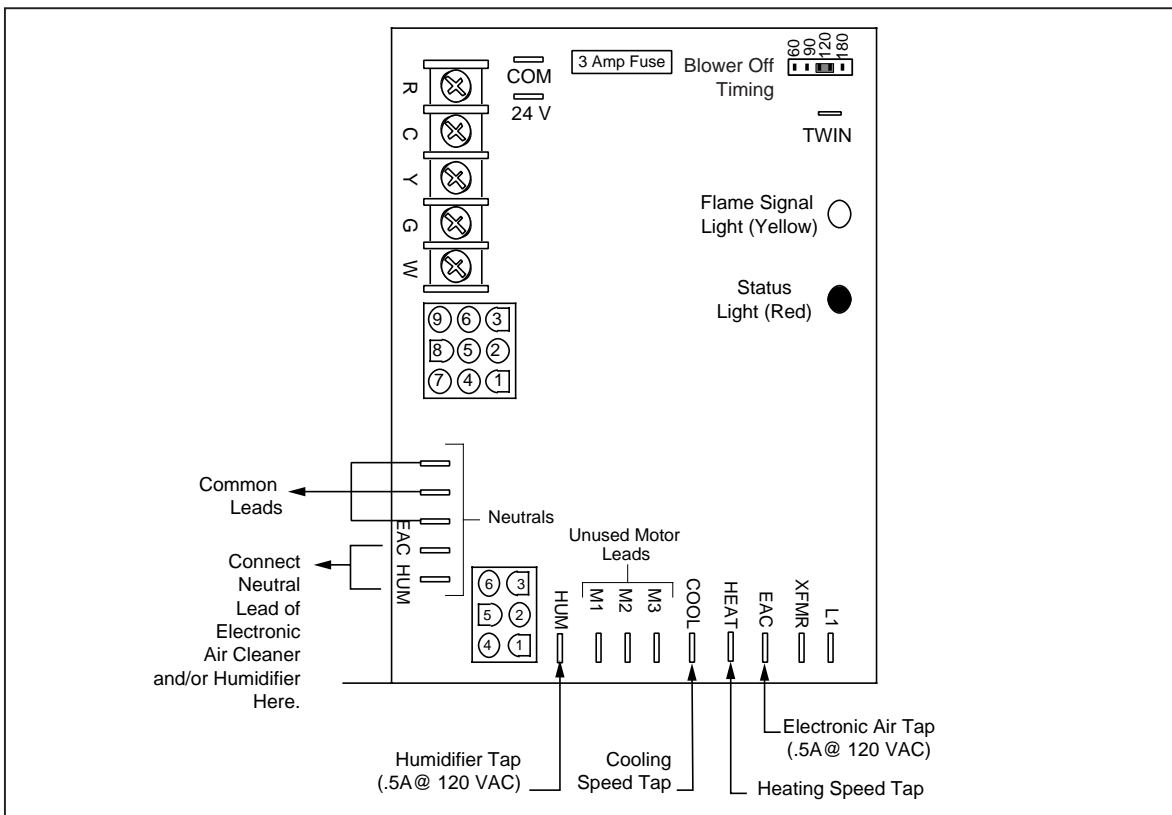

Figure 25. Blower Speed Tap Location
The furnace is equipped with a multispeed motor. Heating and cooling speed selection is made by moving the leads on the integrated control board located in the furnace. The wiring diagram on the furnace and Figures 25, 26 and 27 show the speed taps for adjusting motor speed.
The blower control is designed to start the circulating air blower 30 seconds after the gas valve is opened. The blower control is factory wired to turn the blower motor off 120 seconds after the gas valve is closed. This timing can be changed using the BLOWER OFF timing switch opposite the terminal block on the control board. (See Figure 25.)
11. The furnace control keeps the circulating air blower energized for 120 seconds (factory set) or 60, 90, or 180 seconds (field adjustable). (See Figure 25.)